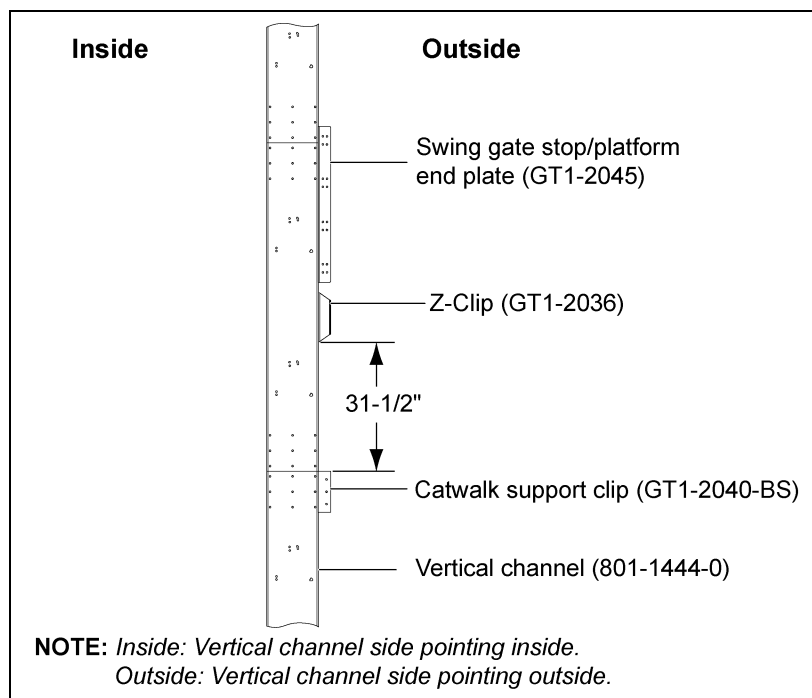

Figure 4F
2. The distance between the Z-clip and support clip for 17' outside catwalk is 31-1/2". (See Figure 4F.)